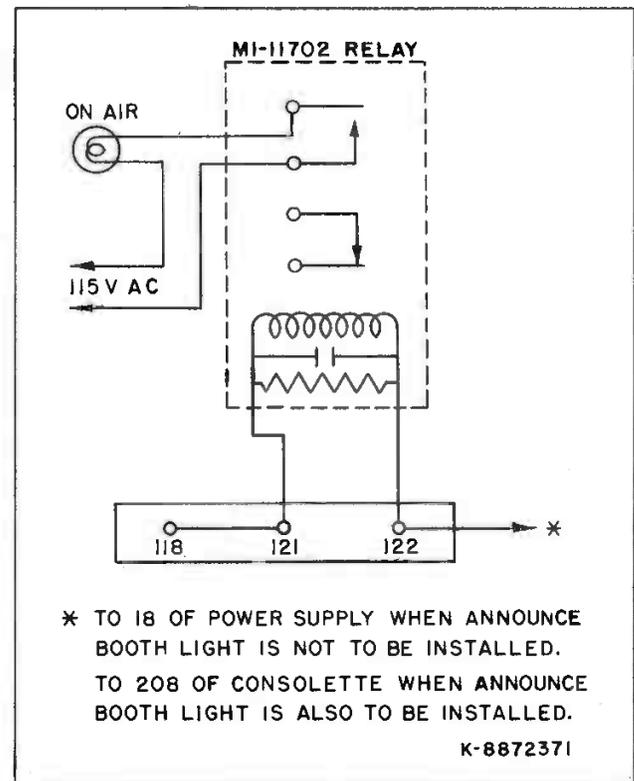

Figure 14 — Control-Room Signal-Light Connections
(2) Connect the relay and light as shown in figure 14. Note that terminal 122 should be connected to 208 if the announce-booth light is to be installed. (The power-supply connection will then be made through the announce-booth relay.)